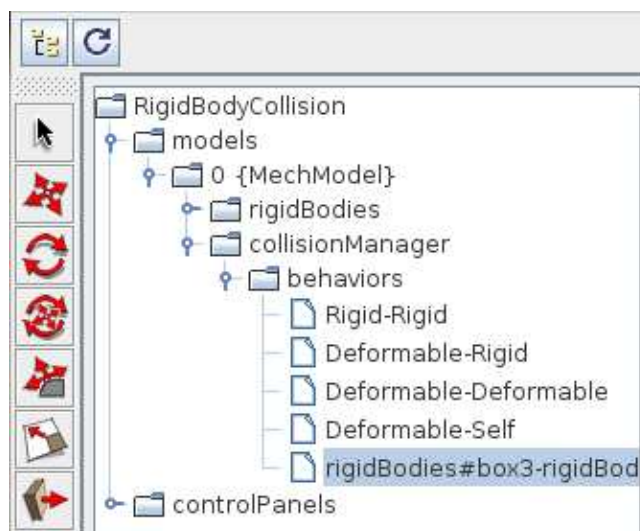

Figure 46: Expanded navigation panel showing the collision manager and individual behavior components for a MechModel.
- For more fine-grained control, one may also use the navigation panel to select one or more of the behavior components located under the collision manager (see Figure 46). The first four of these control the default behaviors. Other behaviors, if any, are overrides that have been added either by application code, or through the GUI. Once selected, one can choose `Edit properties ...` or `Edit render props ...` from the right context menu to edit their properties. In the case of override behaviors, the context menu can also be used to remove them.